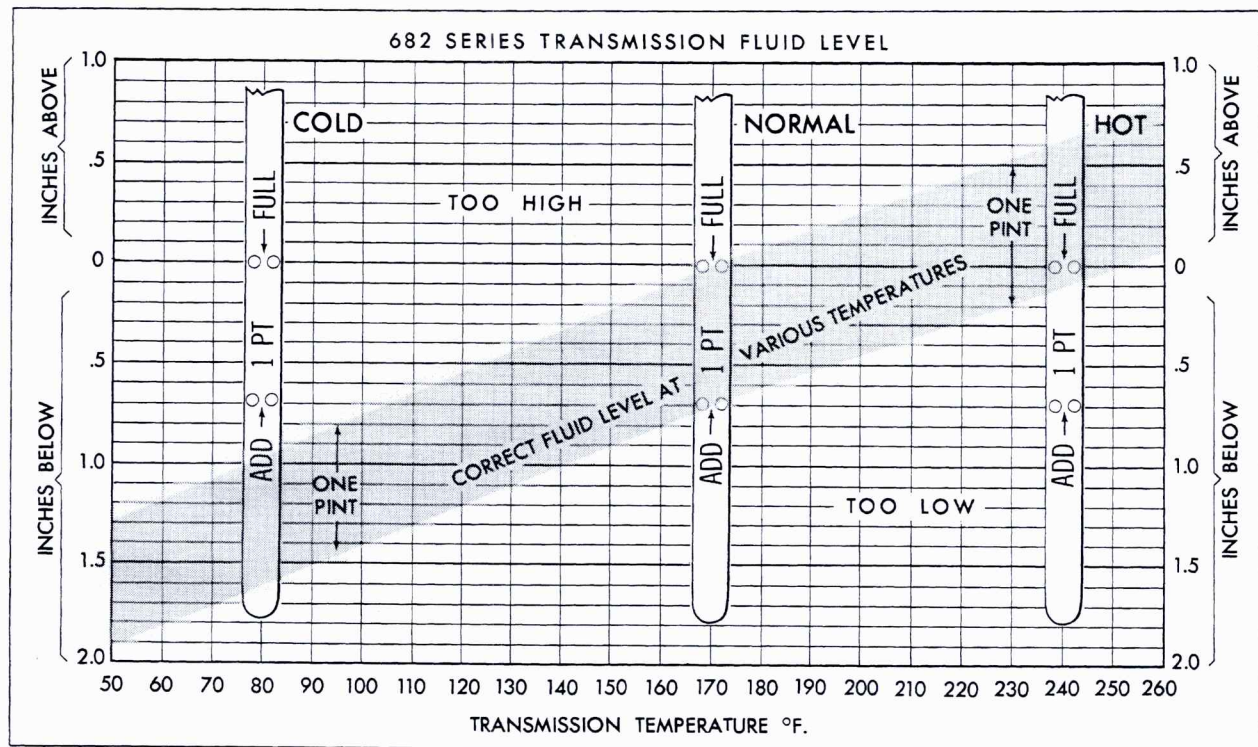

Fig. 0-15 Transmission Oil Level (Except 693)
level is indicated on dipstick. Proper fluid level is based on operating temperature. See Figs. 0-15 and 0-16. At normal operating temperature, 1 pint of fluid will change the level from the low mark to the full mark on the dipstick.
6. Reduce engine speed to slow idle and check fluid level. Add fluid, if necessary, to bring to proper level, Fig. 0-15 or 0-16.